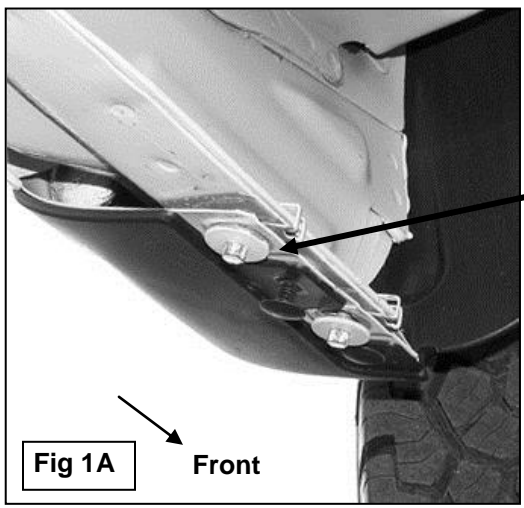

Fig 1A Front
- Starting at the front of the driver side of the vehicle, remove the two small hex bolts and the metal clips holding the bottom of the fender to the body, **(Figure 1A)**. **NOTE:** Use a small flat screwdriver to spread the clip apart for easy removal. Due to body panel misalignment from the factory, it may be necessary to open these holes slightly with a 3/8" drill bit, **(Figure 1B)**.
- Select the driver side front Mounting Bracket. Line up the (2) holes in the pinch weld with the holes in the front Mounting Bracket. Insert (2) 8mm x 30mm Hex Bolts with (2) 8mm x 24mm OD x 2mm Large Flat Washers up from below and secure with (2) 8mm x 16mm OD x 1.6mm